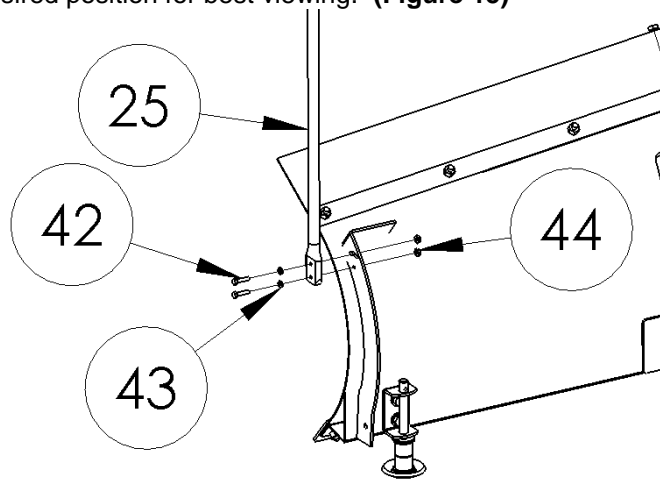

Figure 15
- 13) Install your Plow Flag Markers (#25) using the included 1/4" Bolts (#42), Lock Washers (#43) and Nuts (#44). Adjust the angle to the desired position for best viewing. (**Figure 15**)